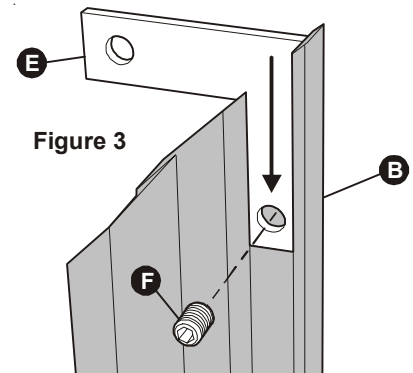

Figure 3
- Attach brackets (E) to the angled end of each side trim (B and C). Gently secure brackets to side trim by tightening set screws (F), only until snug to avoid dimpling the extrusion face. See Figure 3.